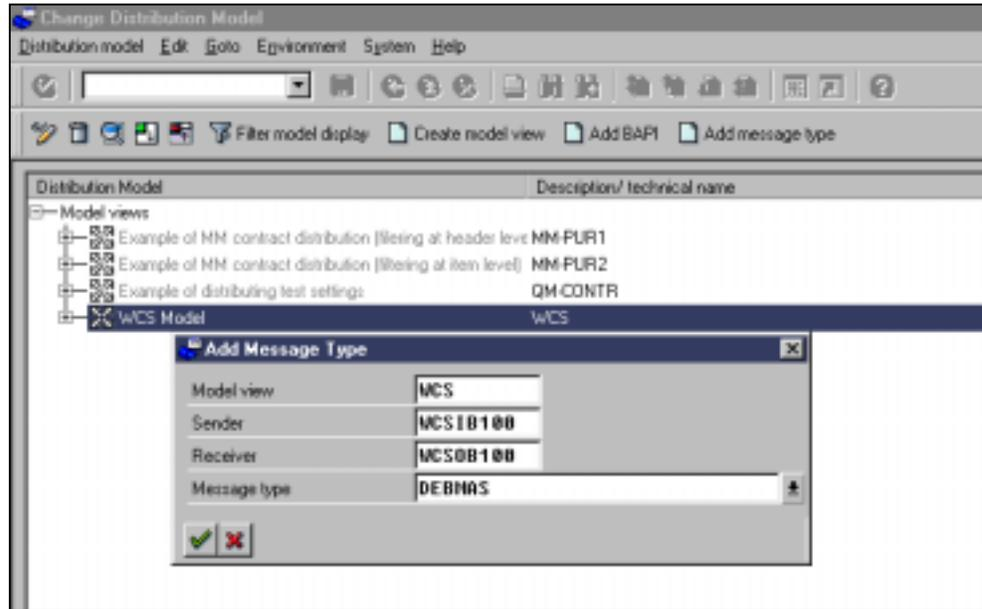

Figure 56: Adding a message type
5. Click **Add Message Type** as shown in Figure 56.